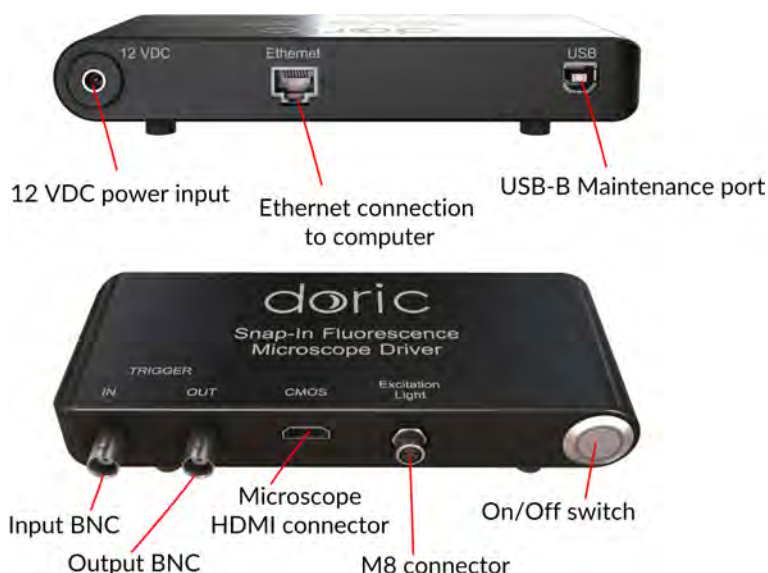

Figure 2.6: Fluorescence Microscope Driver
This driver allows for computer control over the excitation LED light source as well as microscope image capturing and broadcast at video rate to a single computer via high speed Ethernet communication. It can be triggered by or synchronized with external recording devices and it can also trigger other devices using 5V TTL signals (Fig. 2.6). This Fluorescence Microscope Driver is used with the *SFMB*, the *OSFM*, the *eSFMB* and the *eTFMB*.
- The *Fluorescence Microscope Driver* has a **12 VDC** power input (Fig. 2.6) to which the user connects the power supply provided with the system.
- The **Ethernet** port (Fig. 2.6) connects the driver to a computer using an Ethernet cable.
- The **USB-B Maintenance Port** (Fig. 2.6) is used to update driver firmware.
- The **Input BNC** (Fig. 2.6) allows the user to control the microscope using an outside, analog trigger source.
- The **Output BNC** (Fig. 2.6) provides a trigger signal corresponding to the capture of microscope images. This signal is used to trigger other devices.
- The **Microscope HDMI Connector** (Fig. 2.6) is used to connect the microscope to the driver.
- The **M8 connector** (Fig. 2.6) is used to connect the driver to a *CLED* light source.